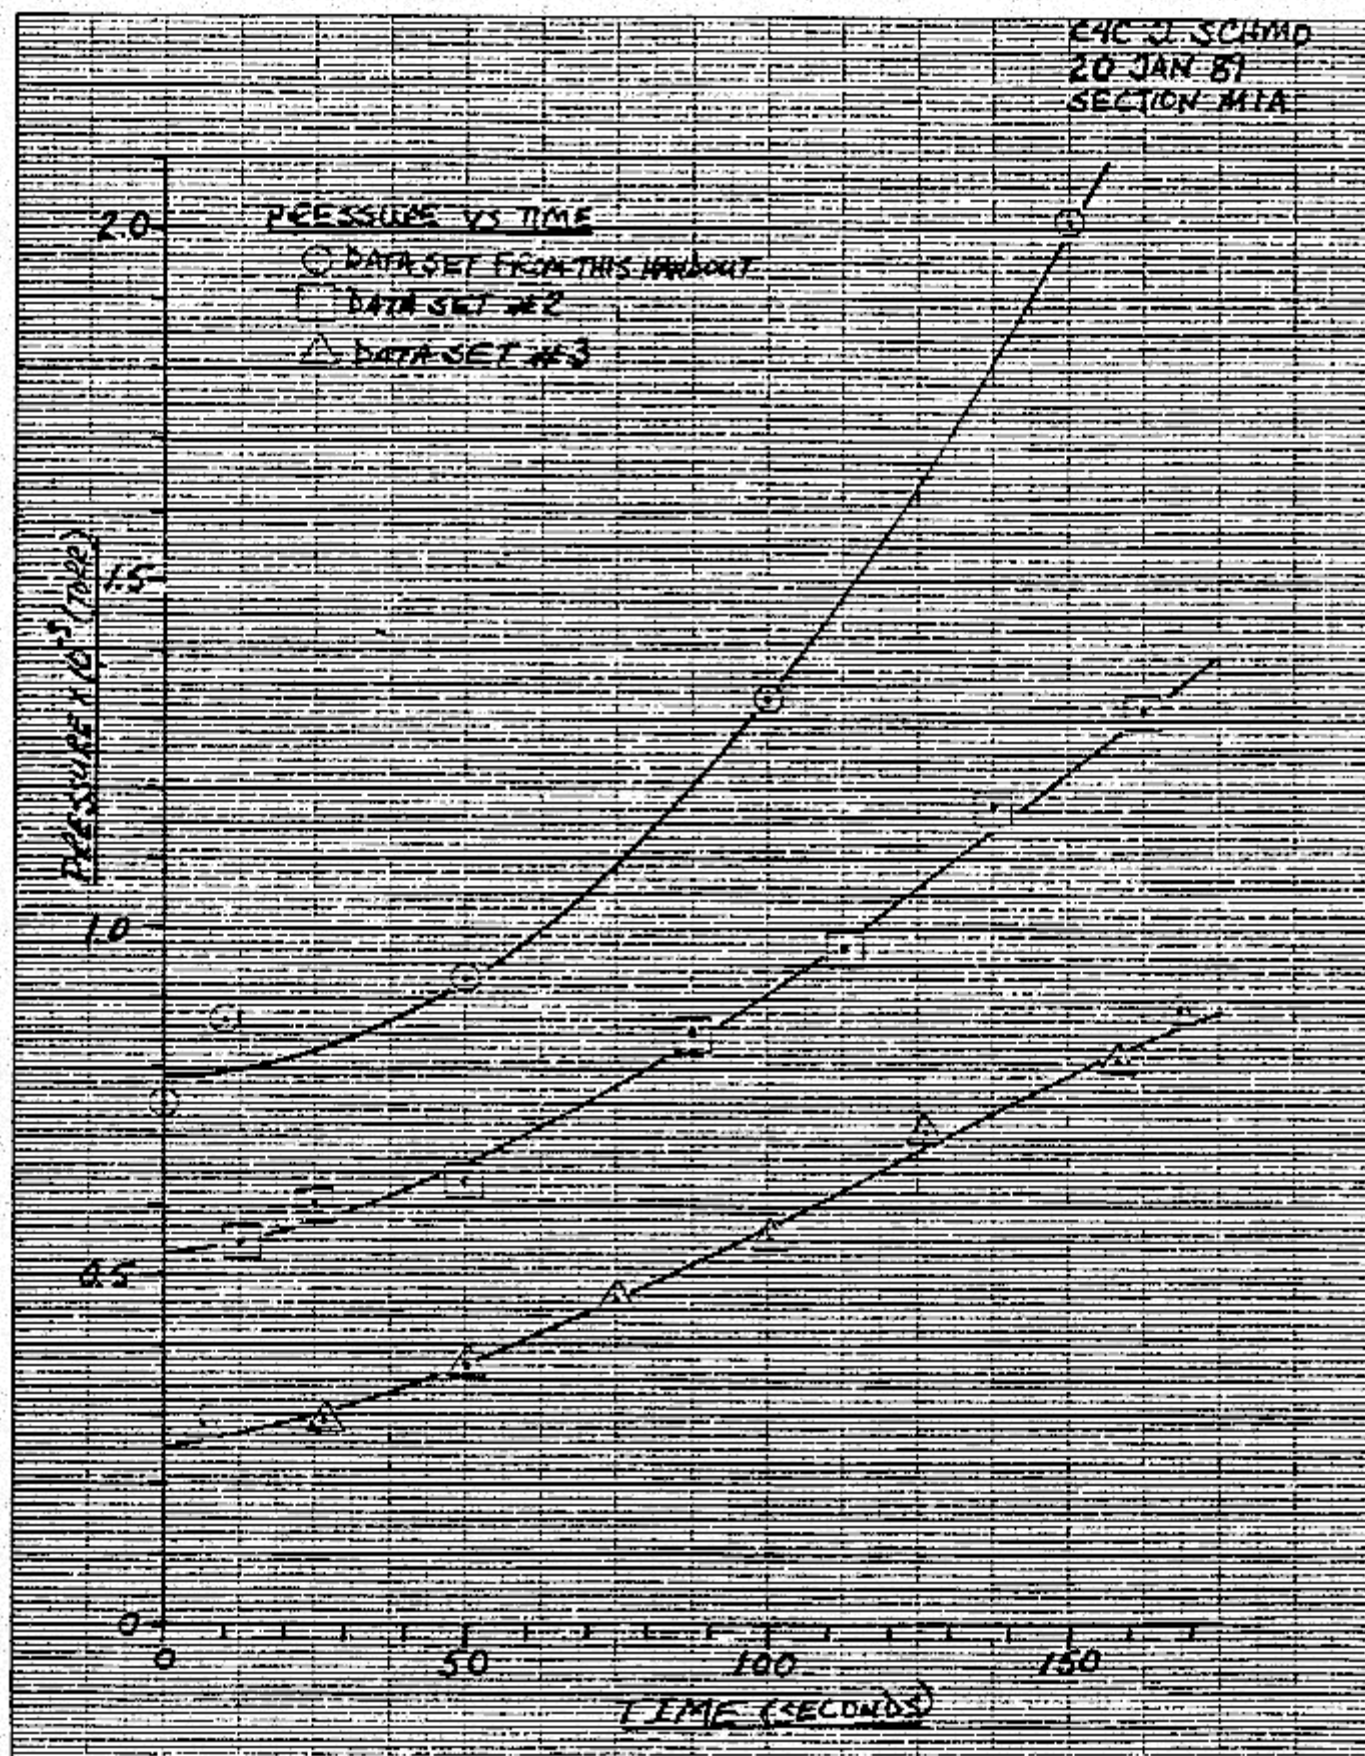

FIGURE 3
In addition, you should scale the axes so that your plot or line will fill most of the graph paper. If you can increase the magnitude of your scale (i.e., spread it out) and still fit the axis on the page, DO IT. Examine your data and identify the range of values you need to plot. For example, your values for the independent variable (X) range from 400 to 800 units, and your graph paper has 25 major divisions along the X-axis you've just drawn. The range of data ($800 - 400 + 400$) divided by the number of major divisions (25) is 16. Thus, you would "fill" the graph if every major division equalled 16 units. Great, but most graph paper has 10 minor divisions per major division (see Figure 3). Using 16 units for a major division is awkward. Instead, use only 20 major divisions to represent your range of 400 units. Now, the major divisions represent 20 units each, and you've filled your graph paper with graph!
It may be difficult, and it would be inconvenient, to write the number 2010 on the Y-axis. Instead, change the number to 2.010×10^3 and label the axis with single whole numbers. This has been done in Figure 3. Each whole number on the axis actually represents a much larger number. You have now chosen a different way to represent the scale on the graph.
The title block contains at least two parts: the graph title and data points legend (as seen in Figure 3). Make your title a short, clear description of the graph's contents. This makes it easier to reference in a text, as well as provide the viewer a starting knowledge of the data portrayed. Always place the title block near the top of your graph (remember, the X-axis is at the bottom).